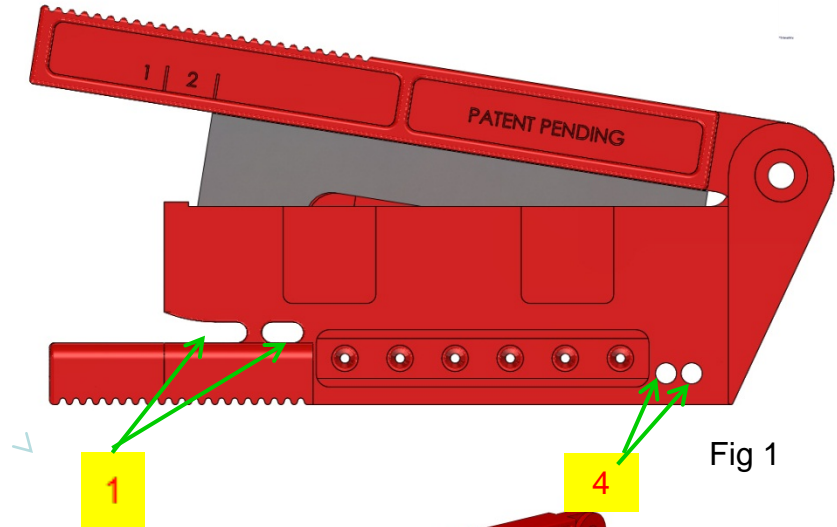

Fig 1
1. If necessary, use the tool to cut the plastic optical fiber from the cable spool or just finishing the bare cable in slots # 1 as shown in (Figure 1).
3. Slide the slit POF cable into the strip hole, Item 4 in Figure 1. You want to strip at least 1" of jacket off the cable.